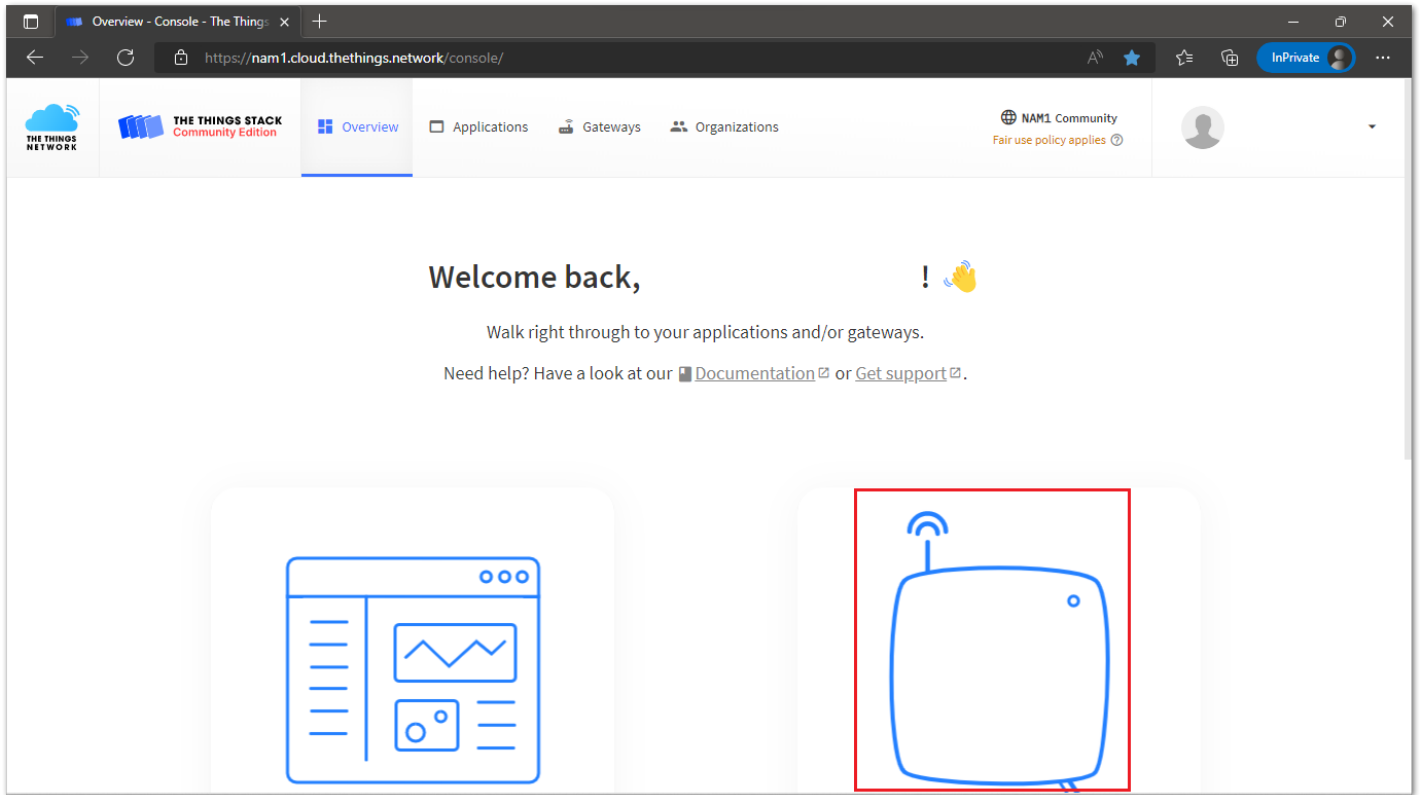

Figure 25: TTNv3 gateway registration and configuration
2. Navigate to the **Console** page and click on **gateway** icon, as shown in **Figure 25**.